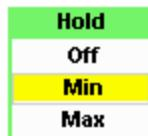

Figure 2-29 Hold pop-up
- 3 Press  to display the **Hold** pop-up, and use the  and  to highlight **Min** or **Max** (see Figure 2-29).